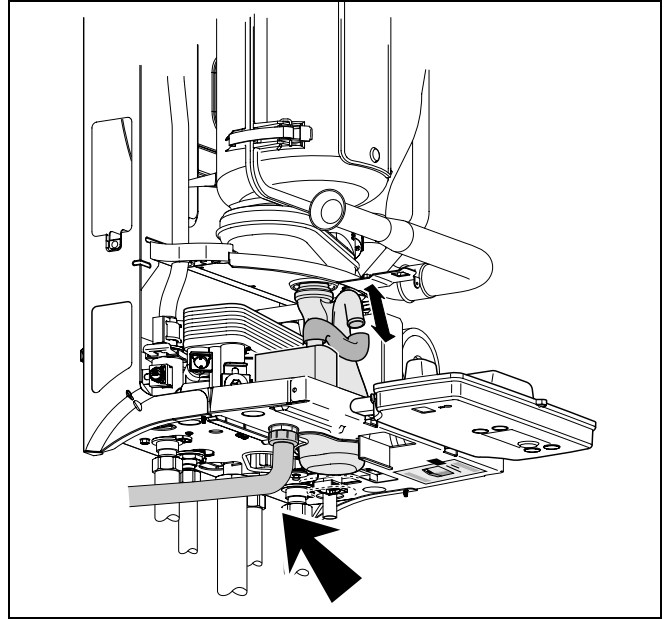
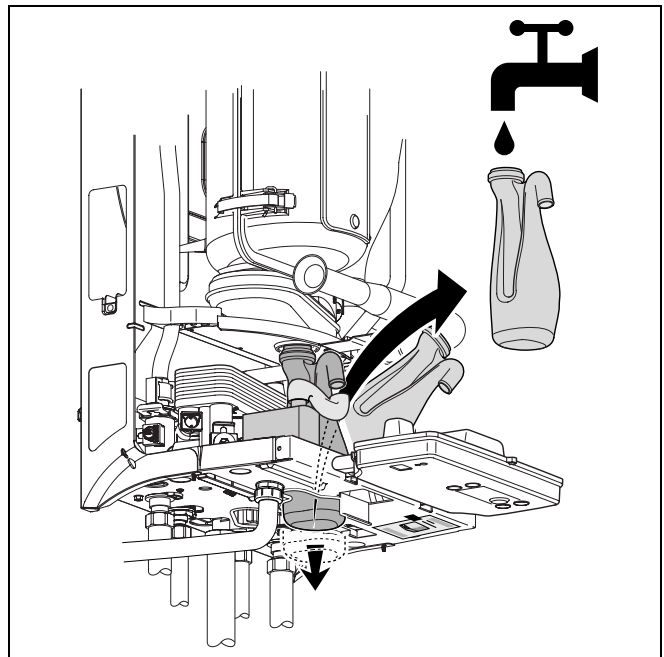

fig. 41 Disconnect hose from condensate trap
fig. 42 Remove the condensate trap and fill with water
- Remove the condensate trap and fill with water (see fig. 41 and fig. 42).